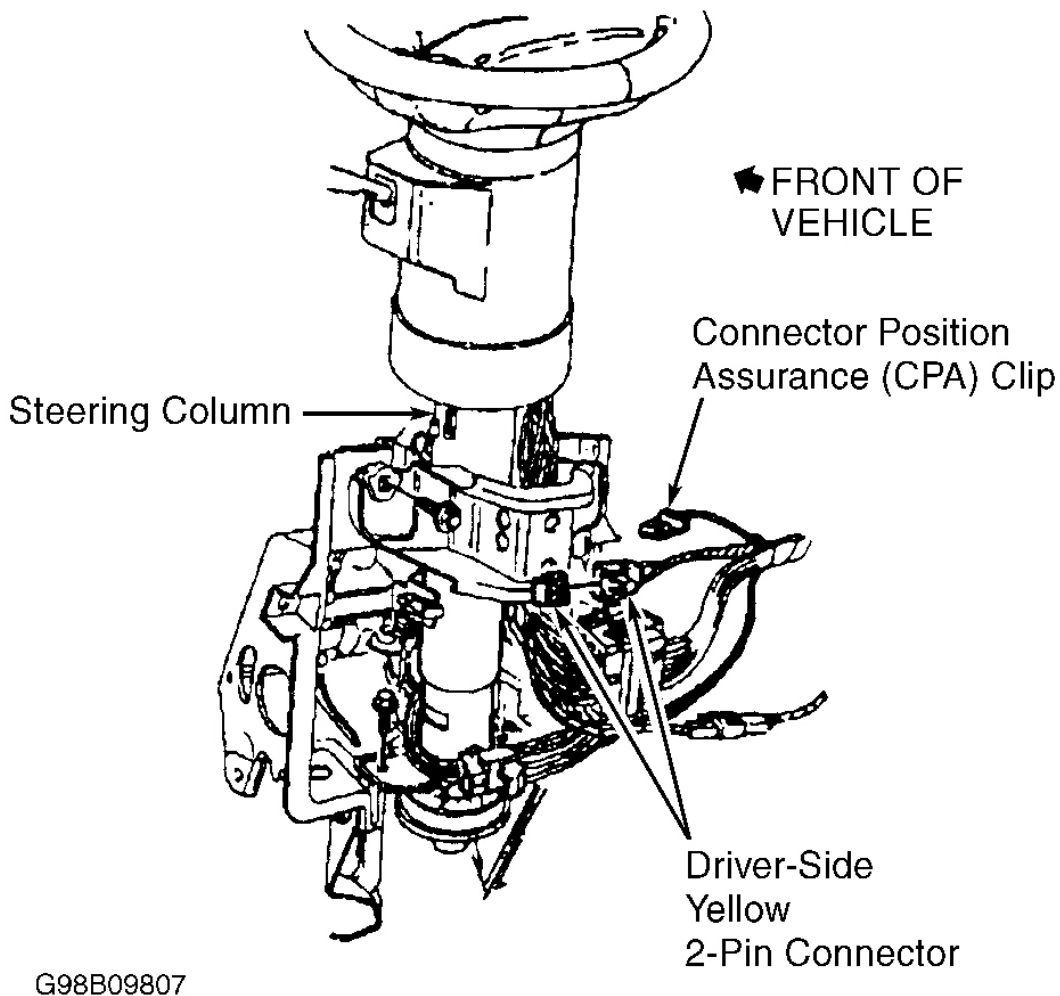
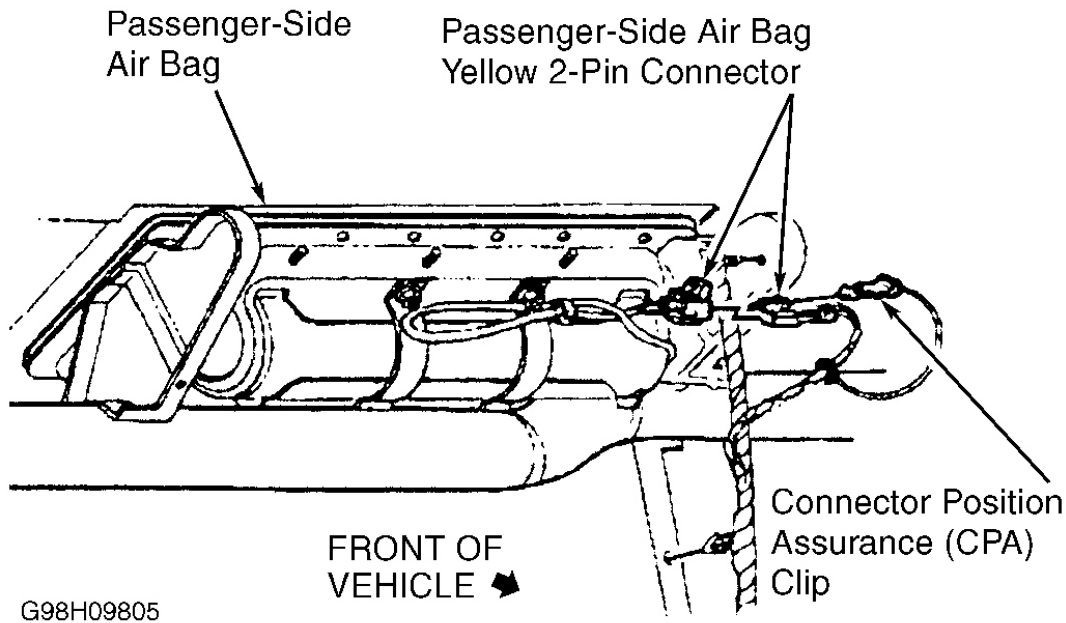

Fig. 4: Locating Driver-Side Air Bag Yellow 2-Pin Connector
Fig. 5: Locating Passenger-Side Air Bag Yellow 2-Pin Connector
2. Remove fuse No. 21 (15 amp) from instrument panel fuse block. Remove left-side instrument panel insulator. Remove Connector Position Assurance (CPA) clip and disconnect driver-side Yellow 2-pin connector at base of steering column. See **Fig. 4** . Remove glove box door. Remove Connector Position Assurance (CPA) and disconnect passenger-side Yellow 2-pin connector behind glove box door. See **Fig. 5** . System is now disabled.